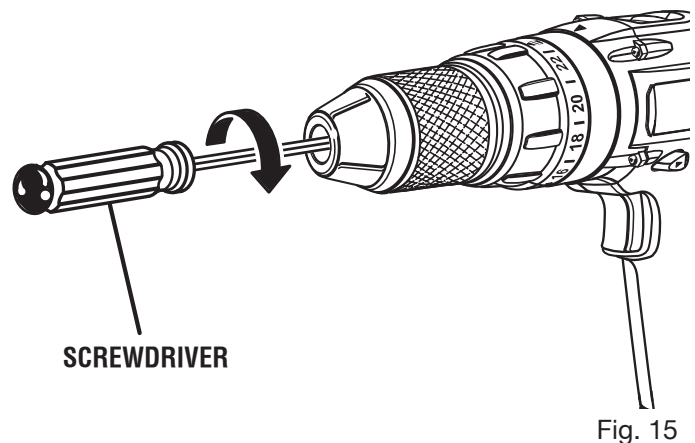

Fig. 15
- Open the chuck jaws and remove the hex key. Remove the chuck screw by turning it in a clockwise direction. See Figure 15.